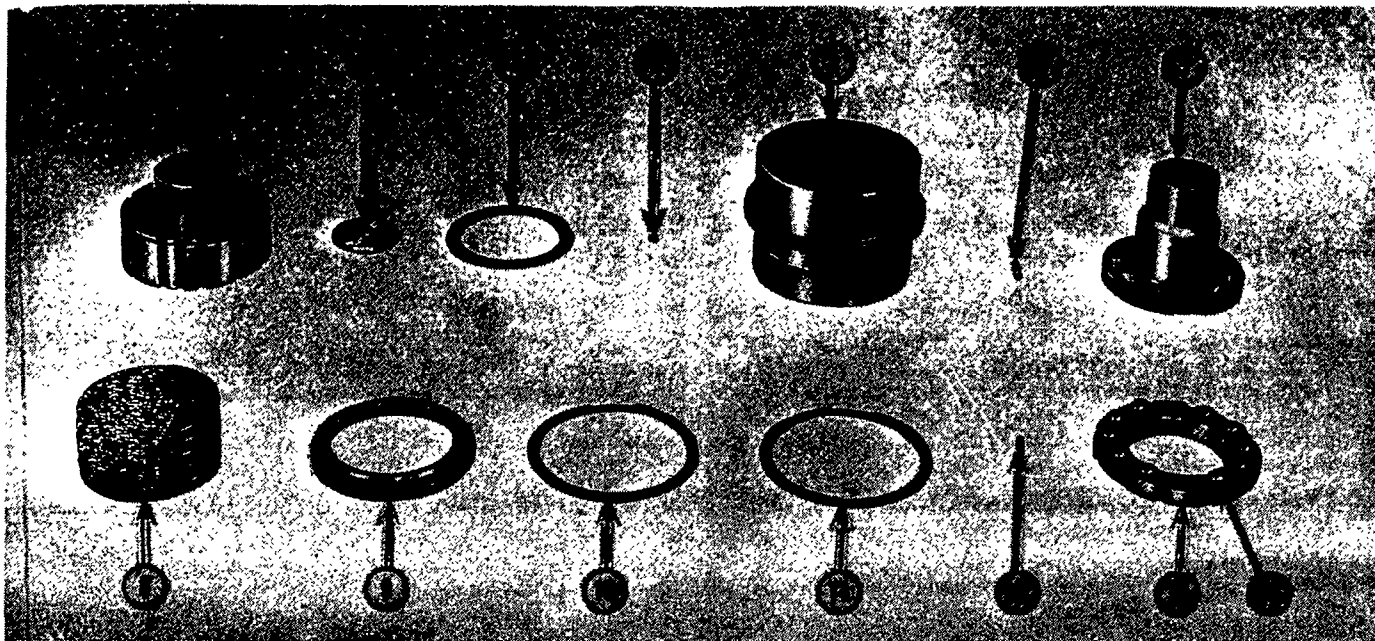

Figure 24
Refer to Figure 24.
j. Install the springs so the alternate spacing is obtained. See Figure 24.